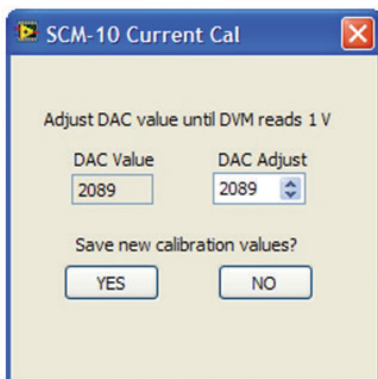

Figure 6.3
5. The next screen is similar to Figure 6.3 . Adjust the DAC value by clicking on the up or down keys on the screen, until the voltage reading on the DMM = (Value of the resistance standard/100000) V \pm 0.0001V . Click on “Yes” to save these calibration values.
5. The next screen is similar to Figure 6.3. Adjust the DAC value by clicking on the up or down keys on the screen, until the voltage reading on the DMM = (Value of the resistance standard/1000) V \pm 0.0001V . Click on "Yes" to save these calibration values.